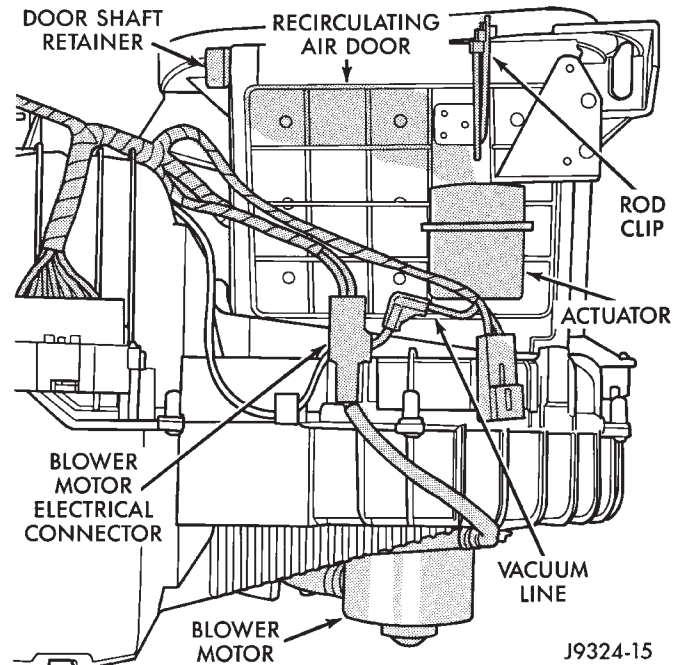

Fig. 55 Recirculation Air Door Actuator
(1) Disconnect and isolate the battery negative cable.
(2) Remove the glove box from the instrument panel. Refer to Glove Box in the Removal and Installation section of Group 8E - Instrument Panel Systems for the procedures.
(3) Reach through the glove box opening to access and unplug the vacuum harness connector from the recirculation air door actuator (Fig. 55).